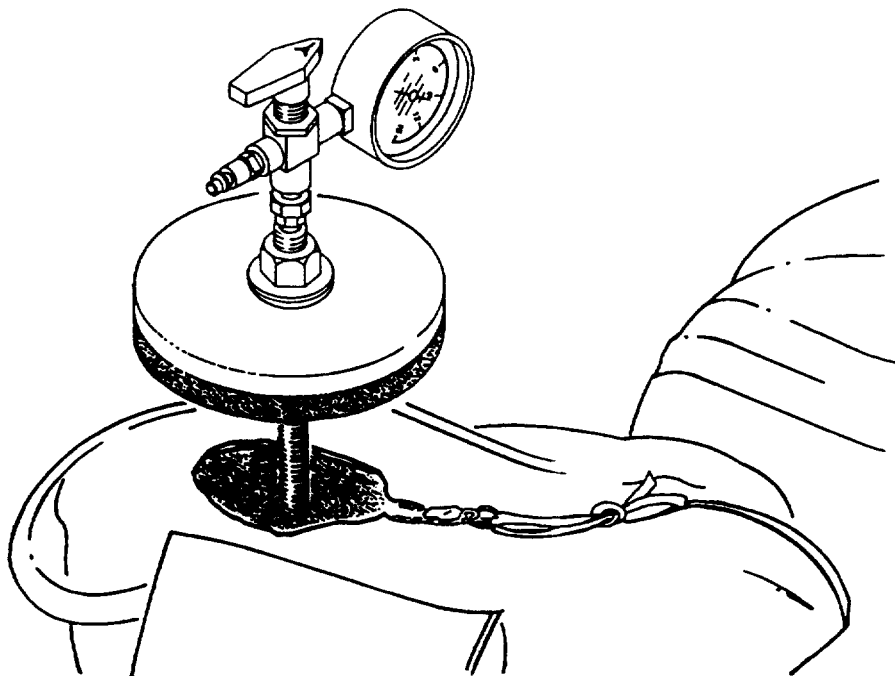

Figure 5-28. Face Plate Assembly (Bottom Plate Inside Suit)
3. Loosen locking nut to allow upper portion of test fixture to be raised above the lower plate assembly. Pull slide fastener closed with the slider tight against the top stops. Lay the facial area opening of the suit flat against the lower plate assembly with the slider and pull tab as close to the center threaded rod as possible. See figure 5-28.